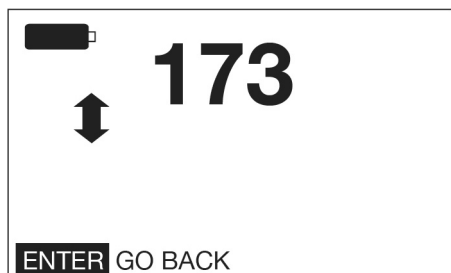

FIG. 21
8. Note the current K-FACTOR is displayed. In the example shown in Fig. 21 the K-FACTOR is 173 (Fig. 21).